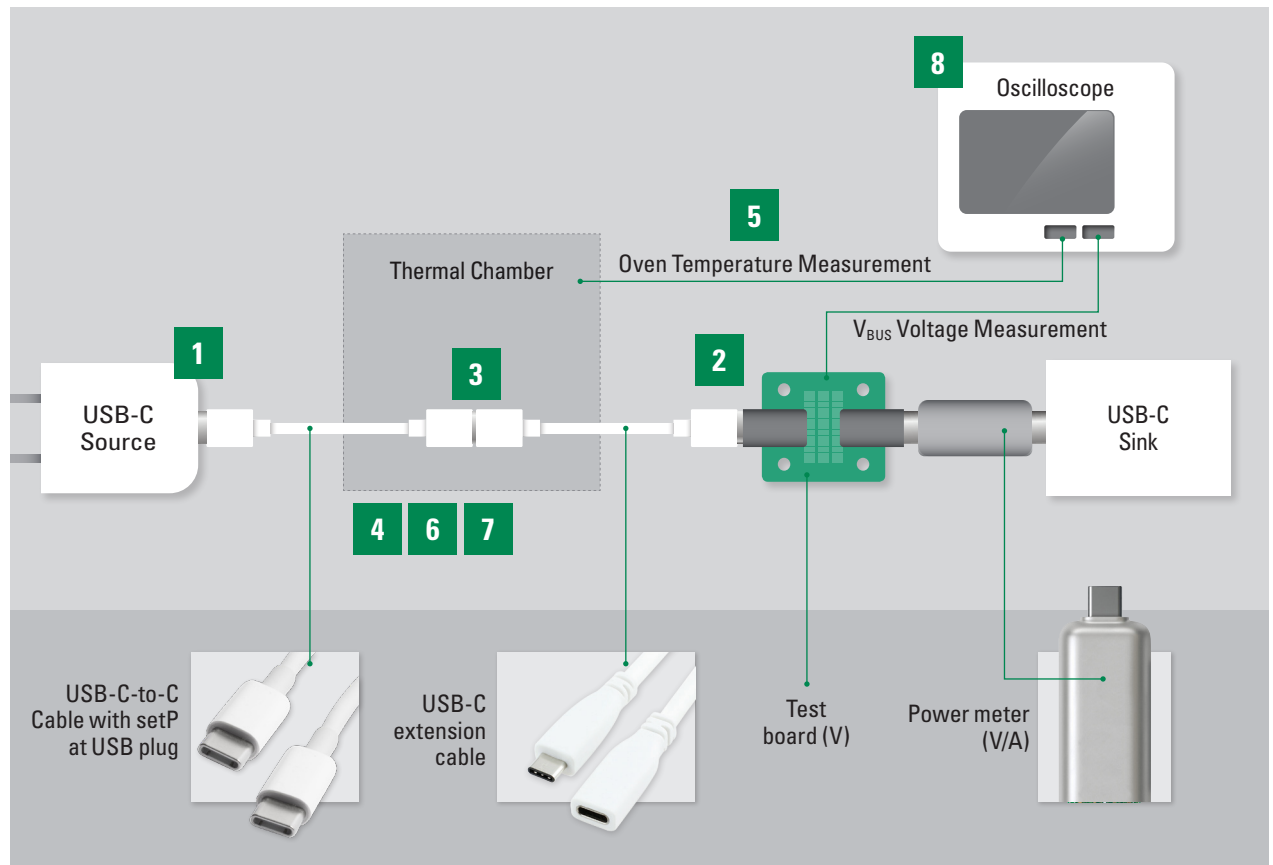

Figure 7. Design verification method 1 test setup
- Design Verification Test Method 1: External heat from a thermal chamber (Figure 7)